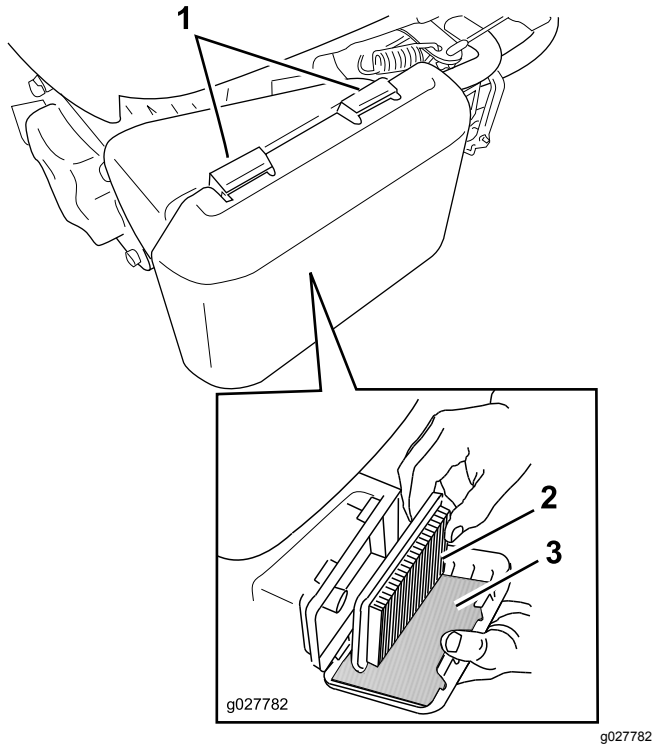

Figure 24
1. Press down on the latch tabs on top of the air-filter cover (Figure 24).
3. Remove the paper air filter and the foam pre-filter (Figure 24).